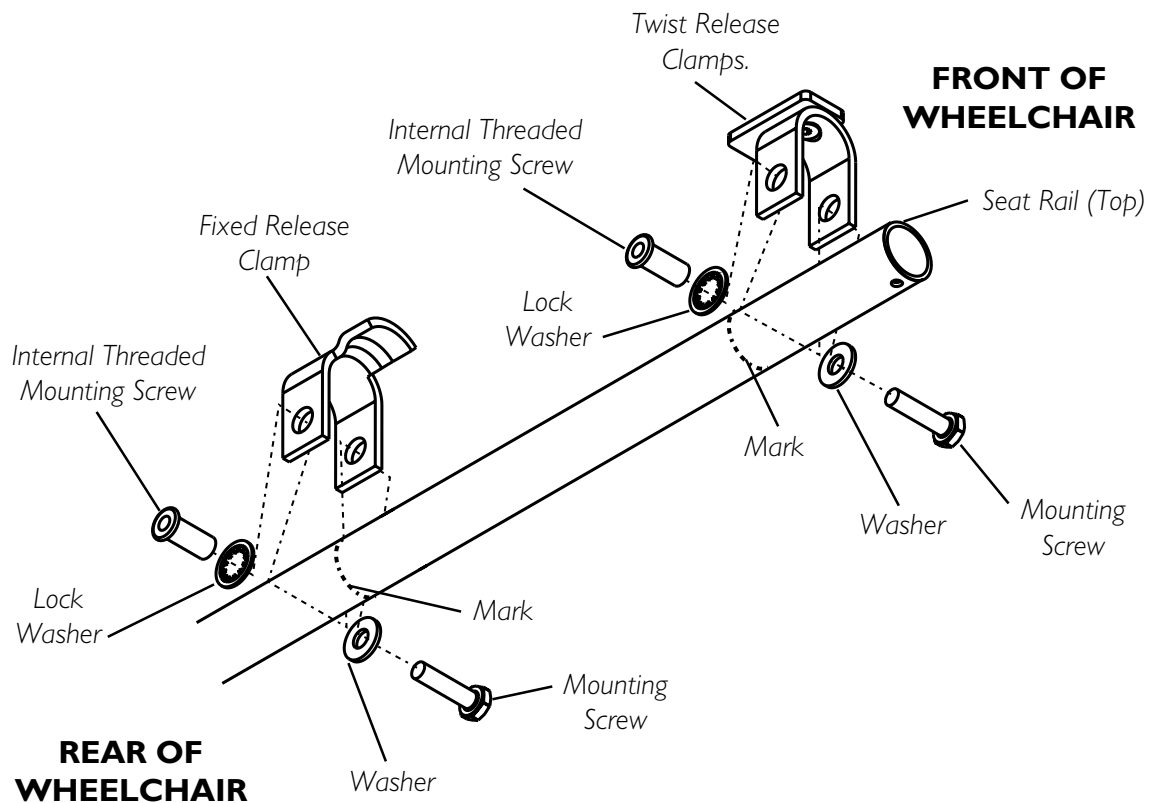

FIGURE 7 - INSTALLATION OF THE ON CHAIR MOUNTING KIT SEAT MOUNTING HARDWARE
INSTALLATION OF ON CHAIR MOUNTING KIT SEAT MOUNTING HARDWARE (FIGURE 7)
4. On the seat rails, mark the front edge of the two (2) front J brackets and the rear edge of the two (2) rear J brackets as shown in DETAIL "A" of FIGURE 7.
6. Install the fixed release clamp onto the seat rail so that the open end of the fixed release clamp is facing the front of the wheelchair and aligned with the mark made in STEP 4 as shown in DETAIL "B" of FIGURE 7.
10. Install the twist release clamp onto the seat rail so that open end of the twist release clamp is facing the rear of the wheelchair and is aligned with the mark made in STEP 4 as shown in DETAIL "B" of FIGURE 7.